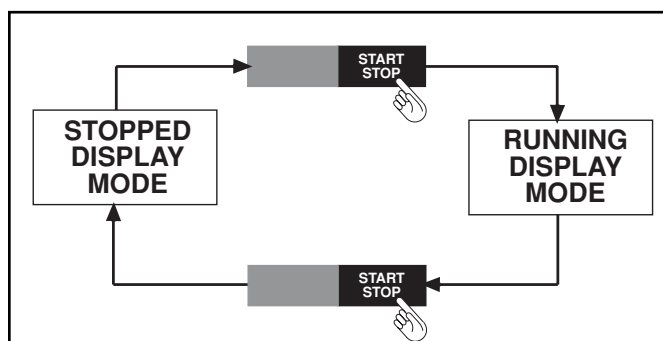

Figure 4-1. STOPPED vs. RUNNING Display Modes
3. Turn on the unit's power. You are now in the **STOPPED Display Mode** (refer to Figure 4-1). The motor and the pump(s) are stopped. The display flashes, indicating that the pump motor is waiting for you to do something. The non-flashing, green LEDs indicate the tubing inlets (refer to Section 5.2), but fluid is not flowing.